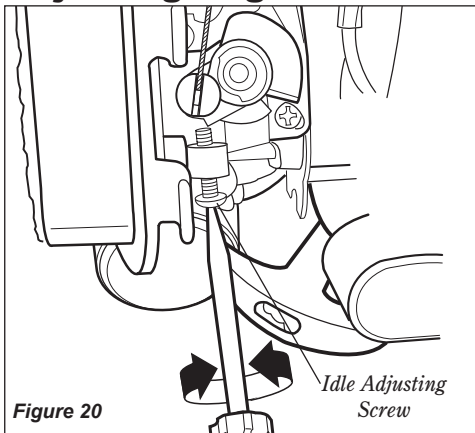

Figure 20
2. If the attachment rotates when the engine is at idle, reduce the idle speed by turning the idle adjustment screw counter-clockwise. See Figure 20.